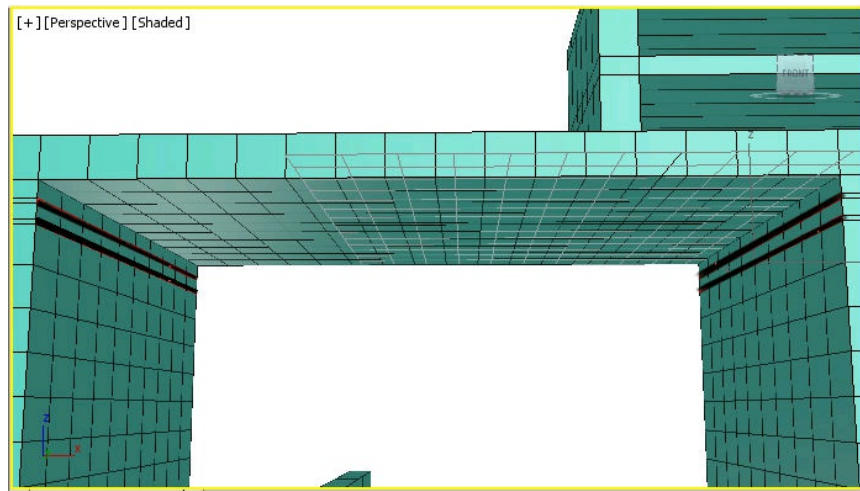

Figure 9-88 Selected polygons between the chamfered edges
6. Select the **Polygon** sub-object level and then select the polygons between the chamfered edge loops, as shown in Figure 9-88.